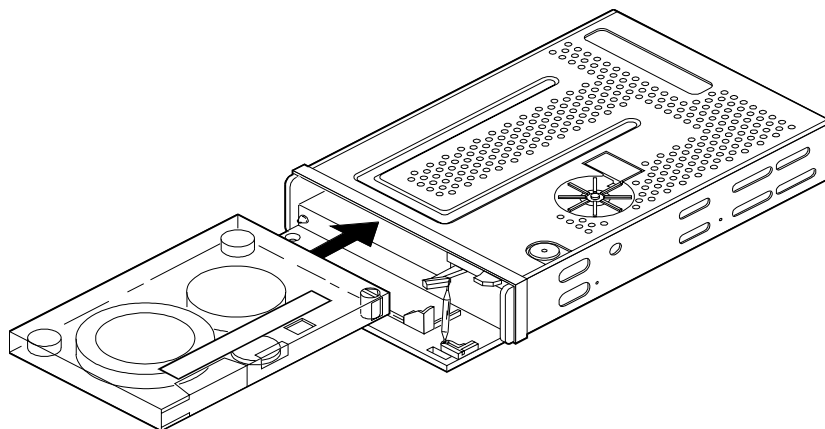

Figure 2-6. Inserting a Cartridge Tape Into An Outward-Hinged 2-Gbyte Tape Drive
- b. Insert the tape into the open drive. When inserted, the label of the tape should be up, and the opening to the tape should be to the right (Figure 2-6).